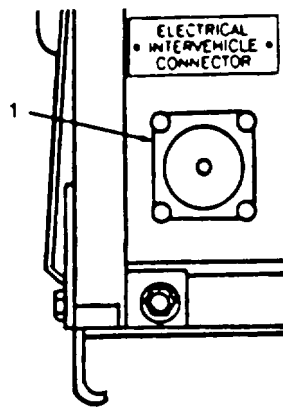

Figure 2-9. Heater Power Connection
a. *Operation in Extreme Cold.* (Refer to Figures 2-9, 2-10, and 2-11.)
- (1) Use proper viscosity engine oil for cold weather. Refer to Appendix F for the correct type of oil.